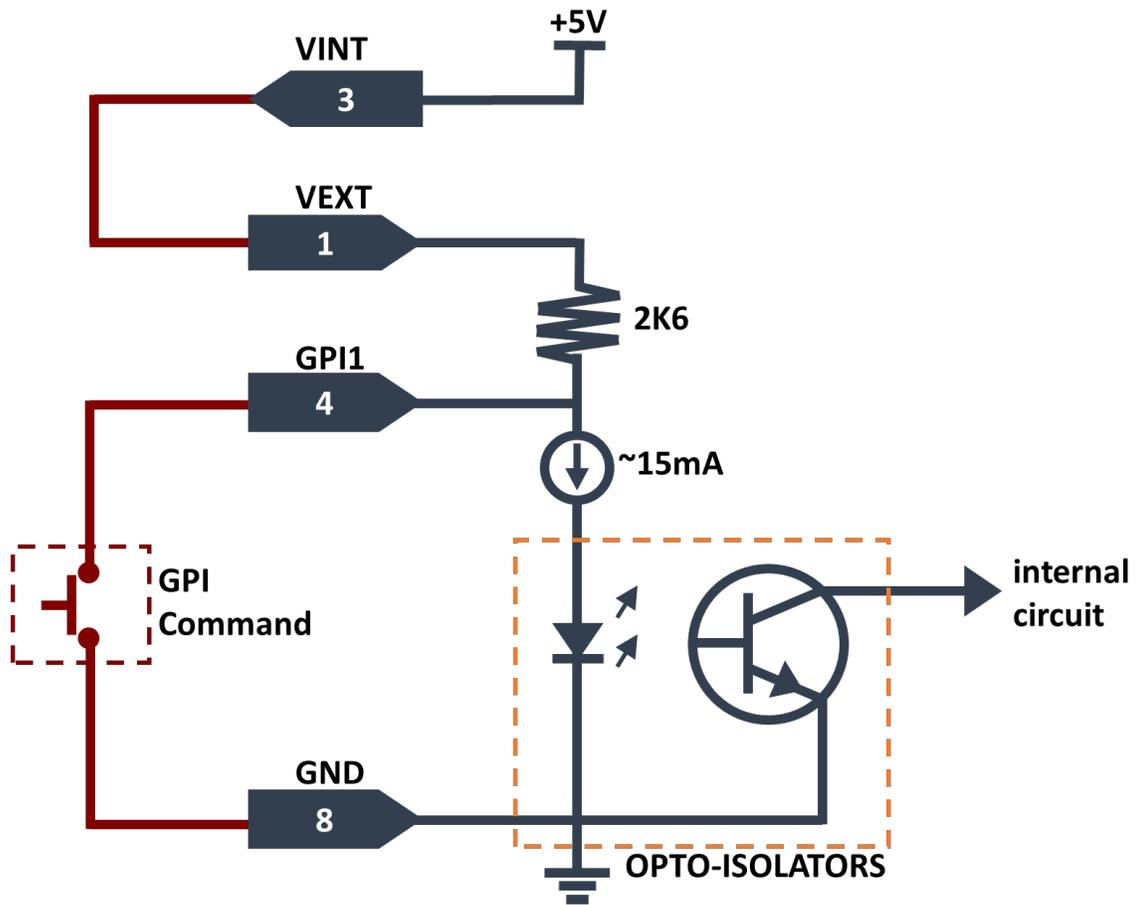
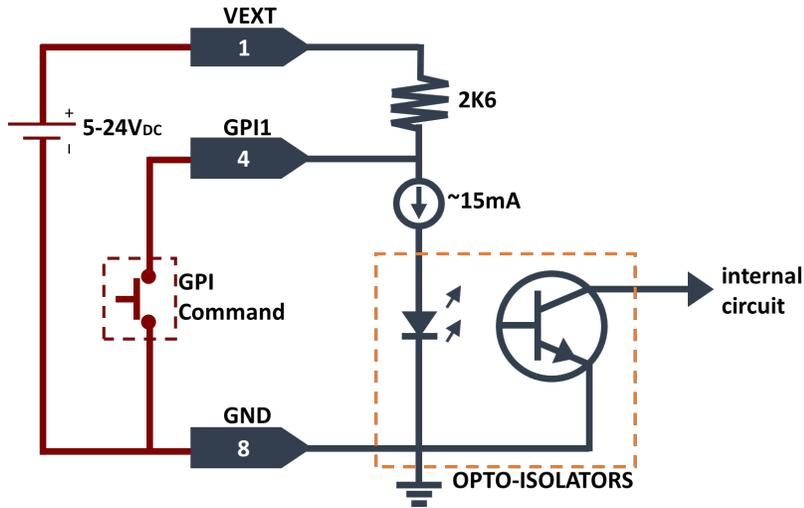
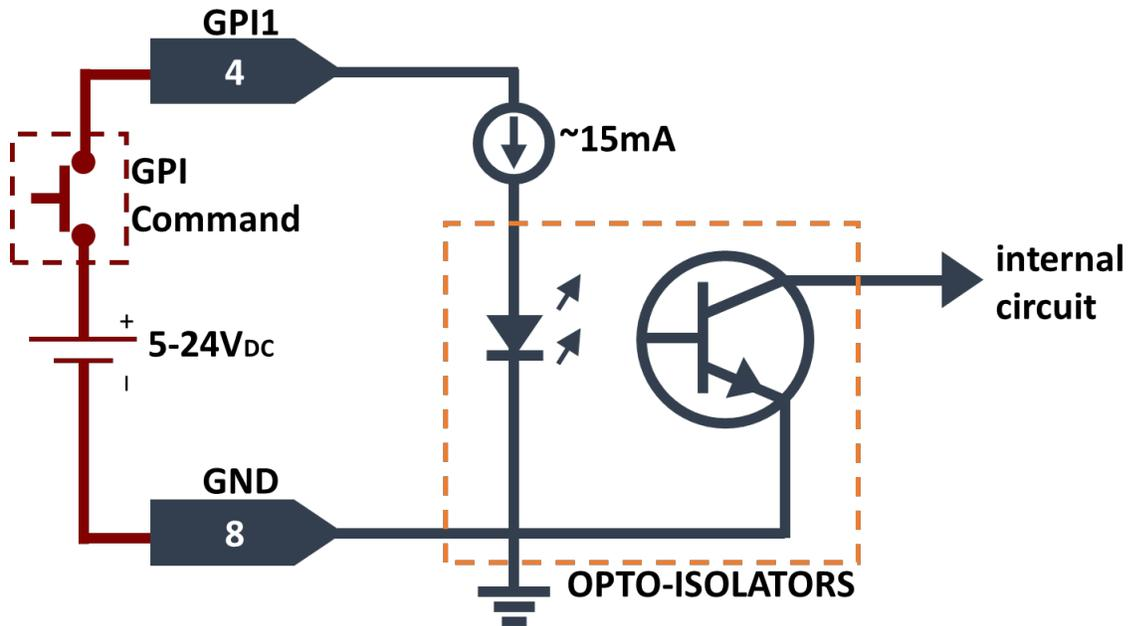

Figure 4-4 : Powering the GPI Opto-Isolators from the Router
Figure 4-5 : Powering the GPI Opto-Isolators from an External Power Supply
Figure 4-6 : Powering the GPI Opto-Isolators from an External Signal
- **Individual Function:** The four GPIs can trigger up to four specific routes each. Once the routes per GPI are set in the Web page (Section 6.3.6) or VistaLINK® (Section 7.2.7), each GPI can be triggered by any of the options depicted in Figure 4-4, Figure 4-5 and Figure 4-6.
There are three methods to trigger the GPIs. The first option, the user can connect the frame supplied by +5V (VINT pin) to the VEXT pin to provide power to the GPIO opto-isolator circuitry. In this configuration, the user can activate the GPIs simply by connecting the GPI input pins to ground (see Figure 4-4). This can be done with a button, switch, relay or an open collector transistor.
Alternatively, an external voltage source may be applied as shown in Figure 4-5. The VEXT voltage must be greater than the voltage supplied to the GPI by at least +5V.
Another option is to power the GPI pin with a signal source as it can be seen in Figure 4-6.